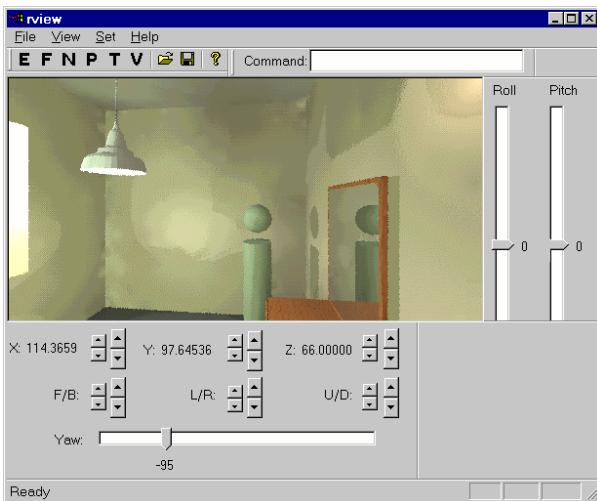

Figure 11. The interactive rendering window.
57. After tracing the first several dozen rays, the image will be automatically exposed to the average for this view. (See Figure 11)